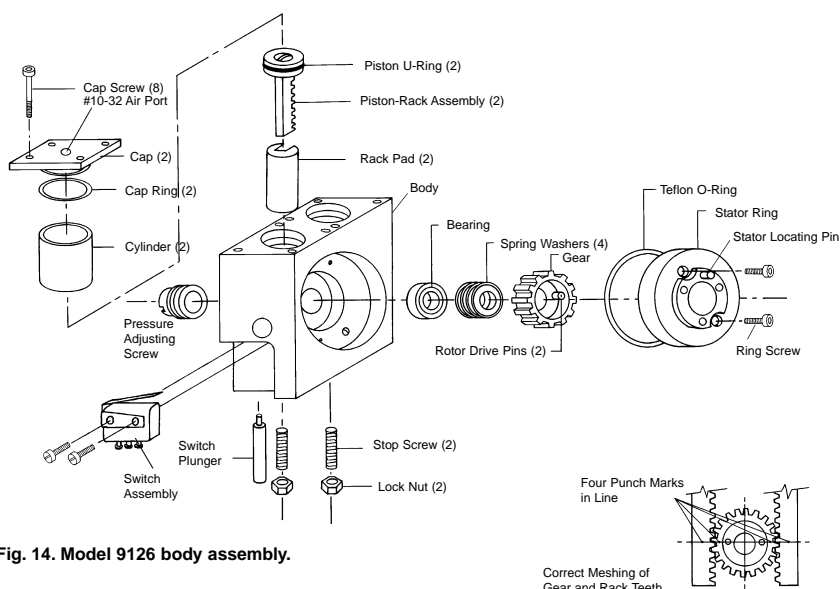

Fig. 14. Model 9126 body assembly.
- Rotate the handle end of the valve while pushing in on the rotor seal until the two rotor drive pins enter the mating holes on the shaft assembly. Refer to Figure 14 and 15.
To reassemble the valve, refer to Figure 14, 15, and 16, and proceed as follows: